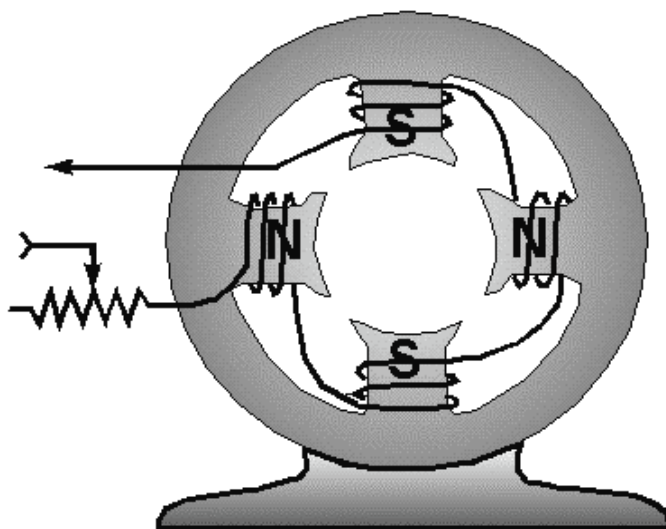

Figure 1-6.—Four-pole generator (without armature).
Nearly all practical generators use electromagnetic poles instead of the permanent magnets used in our elementary generator. The electromagnetic field poles consist of coils of insulated copper wire wound on soft iron cores, as shown in figure 1-6. The main advantages of using electromagnetic poles are (1) increased field strength and (2) a means of controlling the strength of the fields. By varying the input voltage, the field strength is varied. By varying the field strength, the output voltage of the generator can be controlled.